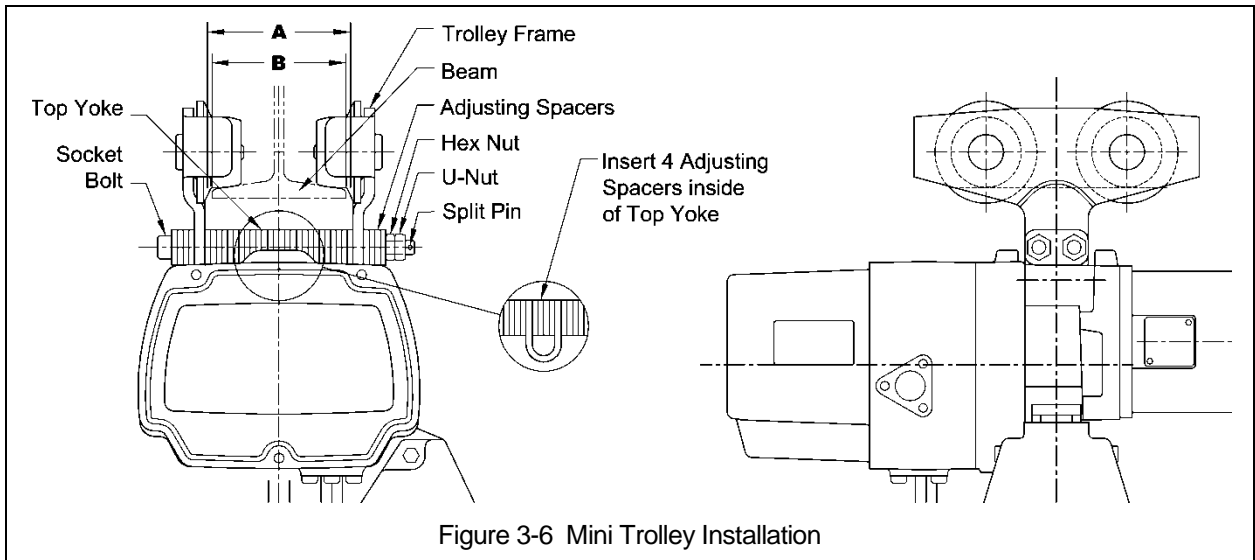

Figure 3-6 Mini Trolley Installation
3.8.1 Mini Trolley - Follow instructions below to install the trolley. Refer to Figure 3-6.
- 3) Refer to Figure 3-6 and assemble the Trolley Frames, Adjusting Spacers and Socket Bolts onto the Top Yoke. Install and hand tighten the Hex Nuts on the Socket Bolts. Verify that dimension "A" is approximately 0.12 - 0.16 in (3-4mm) greater than "B" (flange width). If "A" does not fall within the